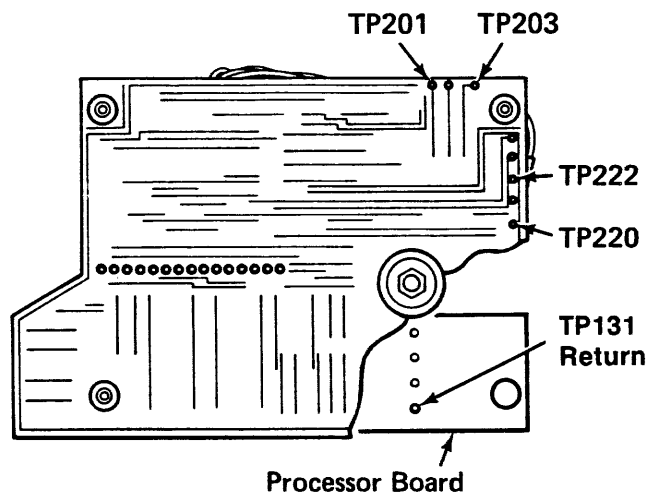

Figure 3-10.6D
- Connect the Channel 1 Scope Probe to TP201 on the Peripheral PWA and the Channel 1 Ground to TP131 on the Processor PWA (Figure 3-10.6D).
- Connect the Channel 2 Scope Probe to TP220 on the Peripheral PWA (Figure 3-10.6D). Do not connect the Channel 2 Ground.
1. Connect the Channel 1 Scope Probe to TP203 on the Peripheral PWA and Ground to TP131 on the Processor PWA (Figure 3-10.6D).
2. Connect the Channel 2 Scope Probe to TP222 on the Peripheral PWA (Figure 3-10.6D).